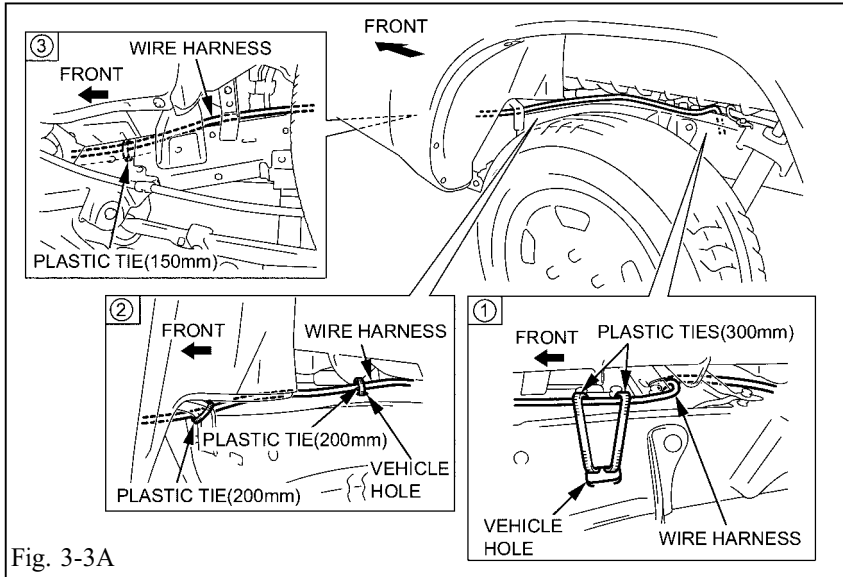
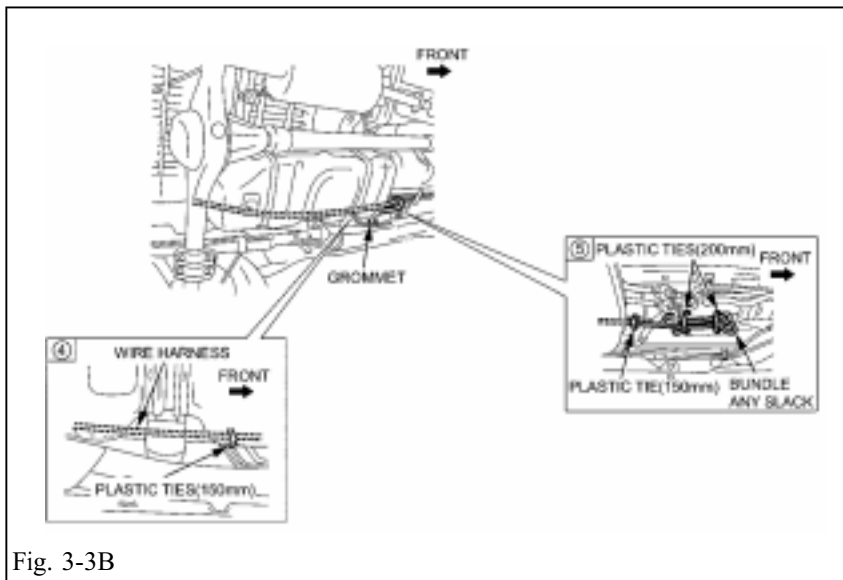

Fig. 3-3A
Fig. 3-3B
- (1) Install the wire harness plastic ties as shown in the figure. Use the amount of ties listed in the table below. (Fig. 3-3A) (Fig. 3-3B)